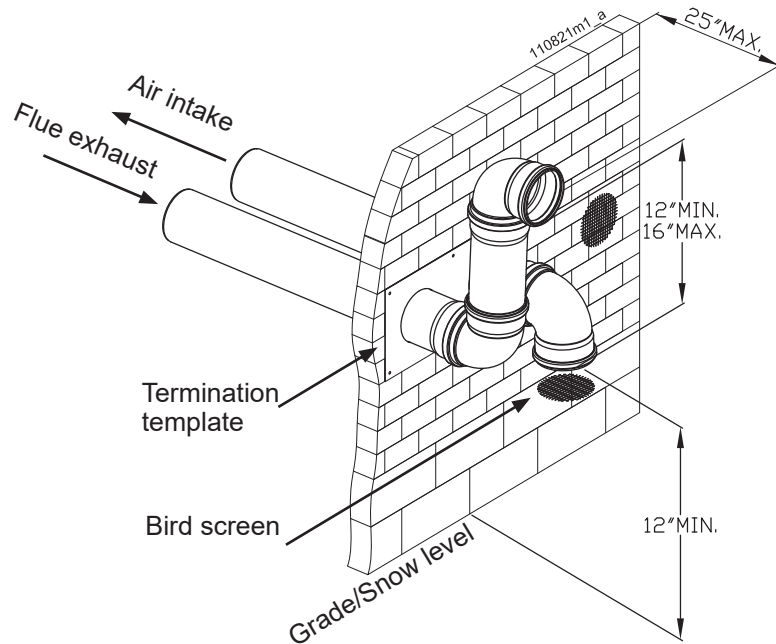

Figure 11-14 Two pipes sidewall termination of air and vent
- 3.- The vent piping must terminate in an elbow pointed outward as shown in Figures 11-14 or 11-15 or in a roof as shown in Figure 11-21;
Do not exceed the maximum lengths of the outside vent piping shown in Figures 11-14, 11-15 or 11-21. Excessive length exposed to the outside could cause freezing of condensate in the vent pipe, resulting in potential appliance shutdown.
- 3.- The air piping must terminate in a down-turned elbow as shown in Figures 11-14 and 11-15. This arrangement avoids recirculation of flue products into the combustion air stream;
- 4.- The vent piping must terminate in an elbow pointed outward or away from the air inlet, as shown in Figures 11-14 and 11-15.
! WARNING!!! Do not exceed the maximum lengths of the outside vent piping shown in Figures 11-14 and 11-15. Excessive length exposed to the outside could cause freezing of condensate in the vent pipe, resulting in potential appliance shutdown.
- 5.- Maintain clearances as shown in Figures 11-14 and 11-15. Also maintain the following:
- 1.- The air termination coupling must be oriented at least 12 inches above grade or snow line as shown in Figures 11-14 and 11-15;
- 2.- Maintain the required dimensions of the finished termination piping as shown in Figures 11-14 and 11-15;
- 3.- Do not extend exposed vent pipe outside of the building more than what is shown in Figures 11-14 and 11-15. Condensate could freeze and block vent pipe.